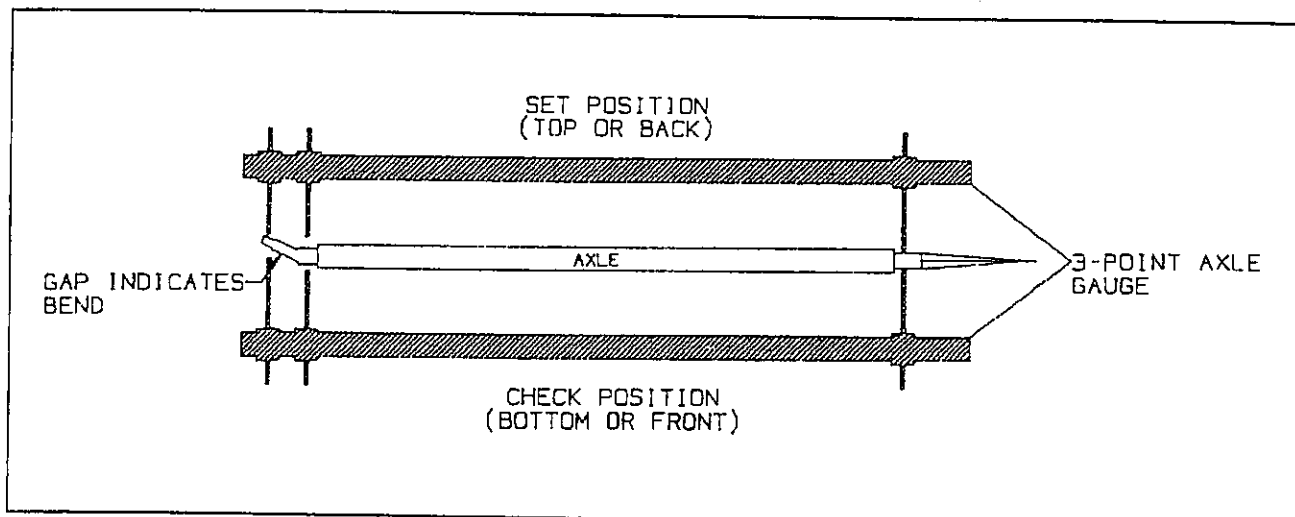

Figure 4-2 Checking Axle for Bend
- b. Place a 3-point axle gauge against the front side of the axle, and adjust each axle gauge point to the axle. Double point end against the inner and outer wheel bearing surfaces of the spindle being checked and the other point on the inner bearing surface on the other spindle (see Figure 4-2).
- c. Move the axle gauge and place against the back side of the axle. If either of the points of double point end fails to touch the axle surface, a bent spindle is evident. A point gap of .015" or more is considered excessive tire "toe" and the axle must be replaced (see Figure 4-2).